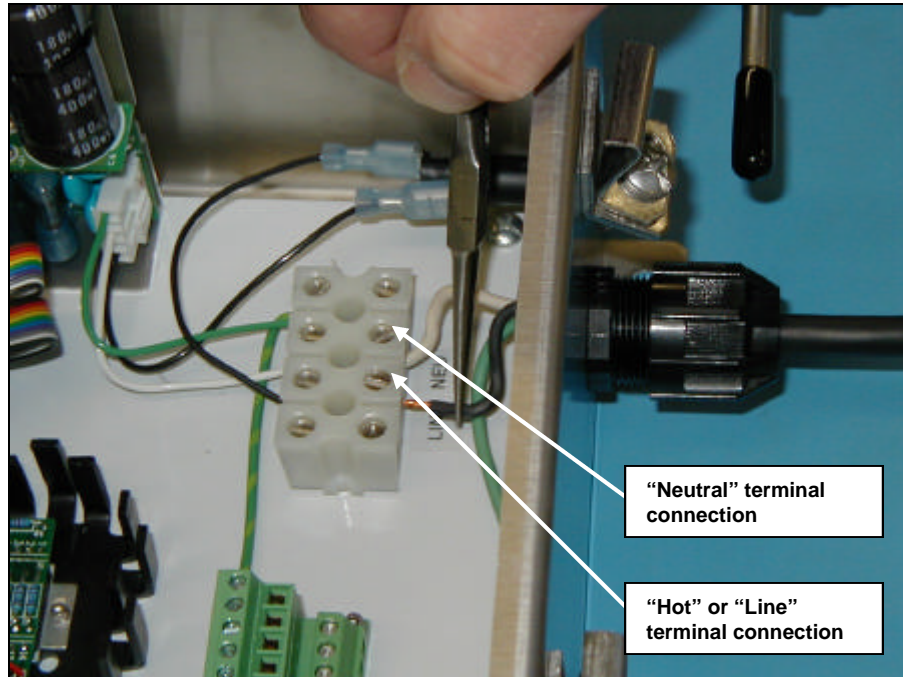

Figure 4 Connect neutral line to terminal marked "NEU", and hot line to terminal marked "LINE".
5. Loosen the terminal screw marked LINE, insert the black wire, and tighten the terminal screw. Be sure that the terminal is contacting the conductor and not clamped onto the insulation. See figure 4.